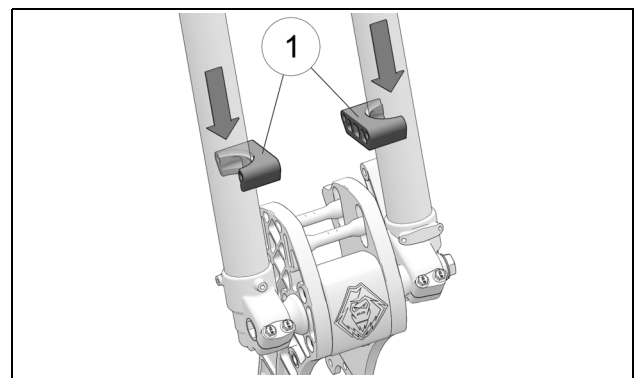

Figure 11
- Position inner clamps (1) at bottom of forks. Clearance bore must be face upward. Figure 11.